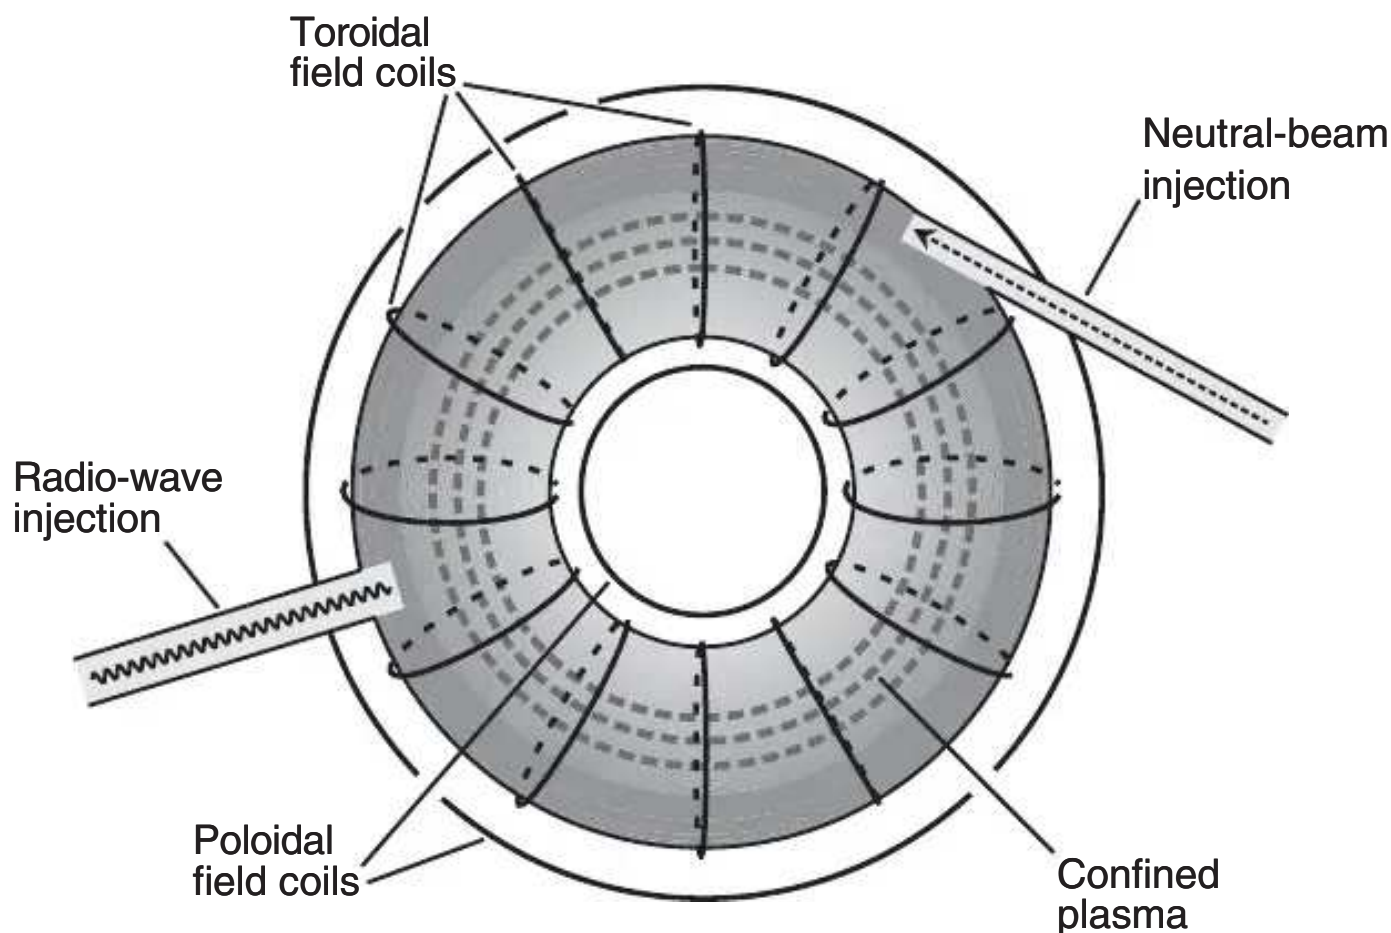

Figure 12-4 Functional diagram of a tokamak, showing plasma confinement coils and two methods of heating the plasma.
The most promising method of magnetic confinement makes use of an evacuated toroidal (donut-shaped) enclosure called a *tokamak*. This term is an acronym derived from a Russian descriptive phrase that translates as “toroidal chamber and magnetic coil.” The plasma is contained inside the tokamak. Two sets of coils, called the *toroidal field coils* and the *poloidal field coils*, surround the toroidal enclosure (see Figure 12-4). The coils carry electric currents that produce strong magnetic fields.
- **Radio-wave injection** Done by transmitting electromagnetic (EM) waves into the plasma at several points in the chamber. These waves have a frequency such that their energy is absorbed by the plasma. Figure 12-4 shows one point of neutral-beam injection and one point of radio-wave injection.